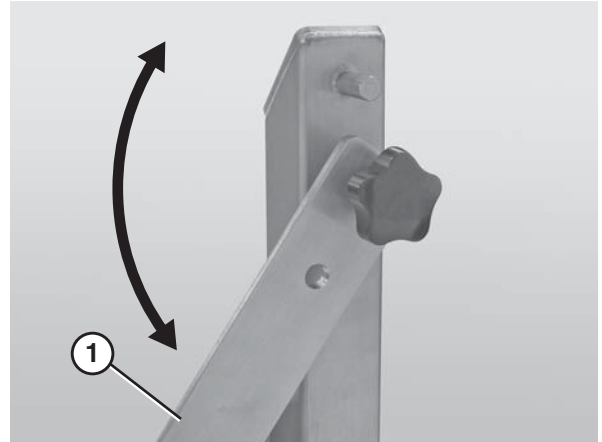

Figure 28
3. Lower the pivot bracket (Figure 28, item 1).